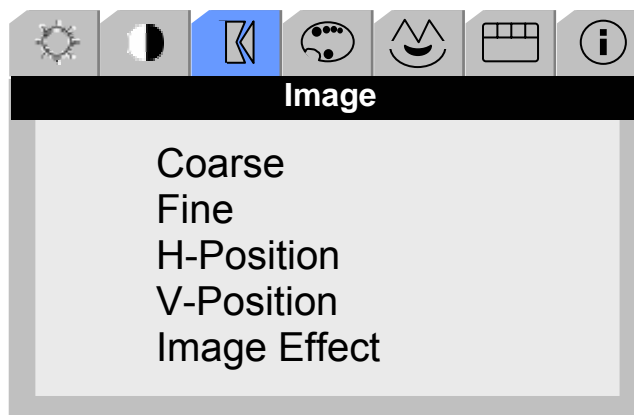

Figure 26: Image Tab
2. Using the + or – button, choose Image, see Figure 26.